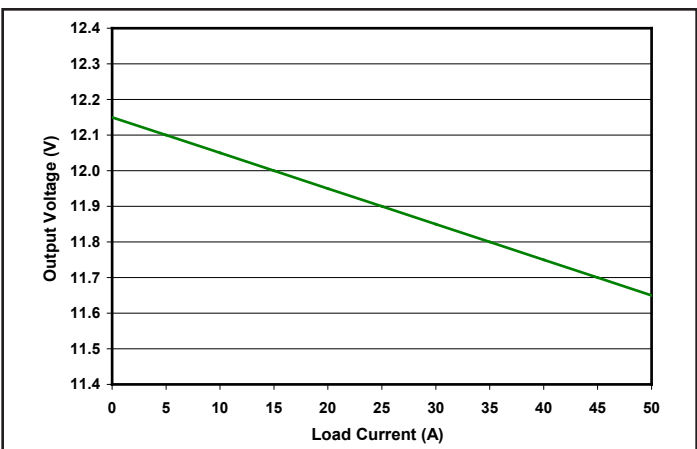

Figure 17: Output voltage vs. load current showing droop characteristic at 25°C.
**Back-Drive Current Limit:** If there is negative output current of a magnitude larger than the "Back-Drive Current Limit while Enabled" specification\*, then a fast back-drive limit controller will increase the output voltage to maintain a constant output current. If this results in the output voltage exceeding the "Output Over-Voltage Protection" threshold\*, then the unit will shut down. The full I-V output characteristics can be seen in Figure 17.